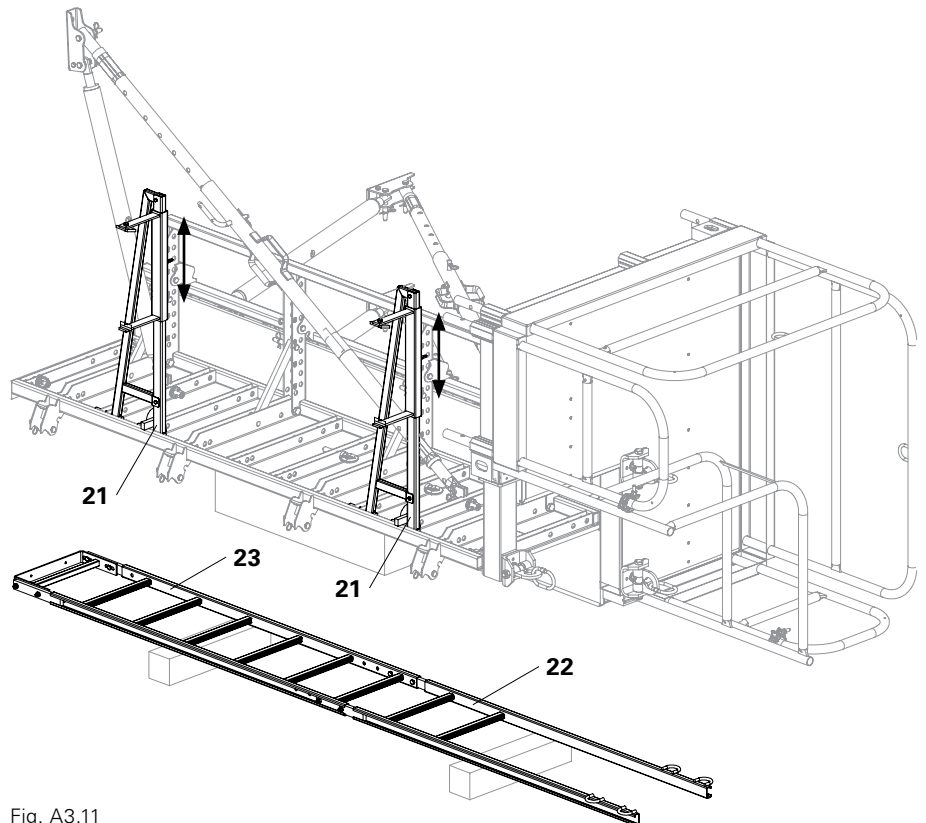
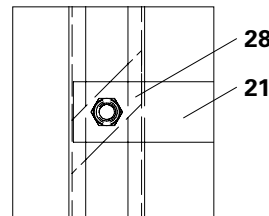

Fig. A3.11
Fig. A3.12
1. Position QUATTRO Ladder Connections-2 (21) on the frame.
2. Insert bolts in the outermost drilled hole and secure with clamp. (Fig. A3.11)
- attach Ladder 180/6 (23) to Access Ladder 180/2 (22), SW 19.
5. Fix Ladders 180/6 and 180/2 with clamping plates (28) to the QUATTRO Ladder Connections-2 (21), SW 19. (Fig. A3.12)